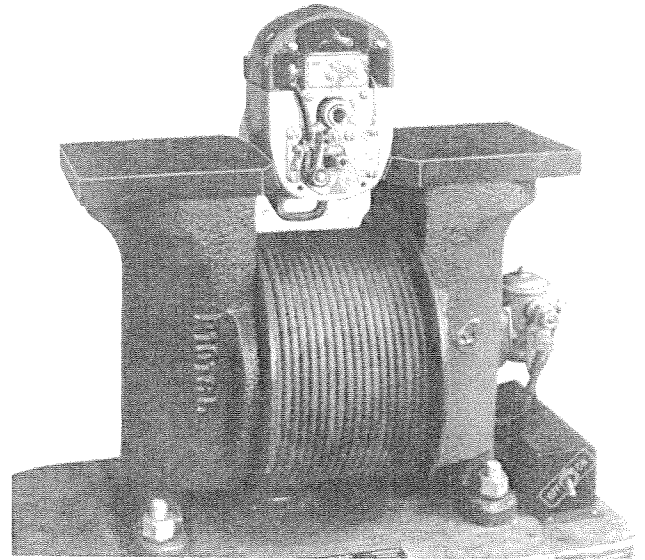

Figure 22. Charging Magnets in Magneto
1. Place the magnet in the field of the charging coil, Figure 22.
2. Recharge the magnet with rotor in place in the frame, Figure 22. **WARNING: KEYWAY IN ROTOR IS ON NORTH POLE SIDE OF ROTOR. DO NOT REVERSE POLARITY. DO NOT CHARGE MAGNET WITH IMPULSE COUPLING ON MAGNETO AS YOU WILL CHARGE THE IMPULSE PARTS SO**